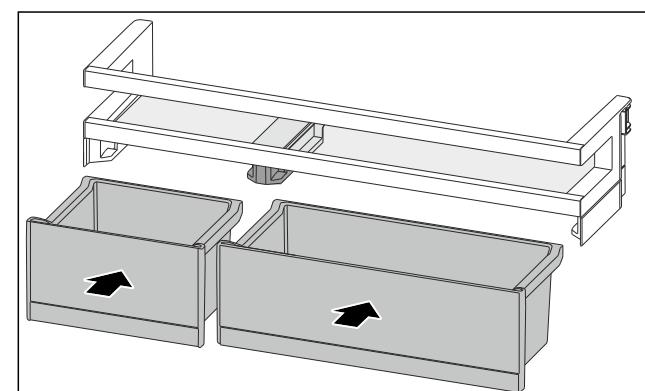

Fig. 123
- ▶ Insert the VarioBoxes opposite order. (see Fig. 123)